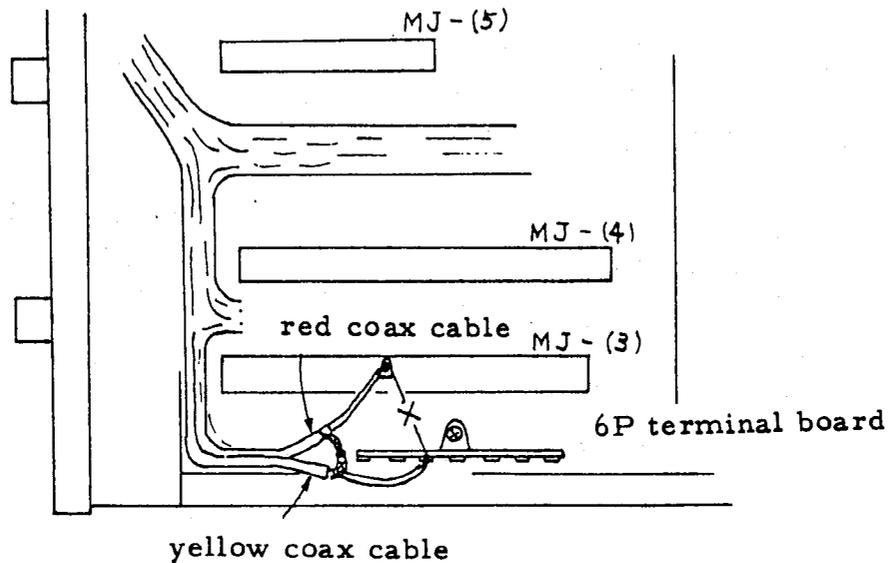

Fig. 6-9
4. Remove a wire between Pin 10 of MJ-3 and terminal board at the side of MJ-3. (See Fig. 6-9)
1. Remove the jumper wire between Pin 10 of MJ-3 and 6P terminal board (X mark in Fig. 6-9).
2. Locate the unsoldered red and yellow coax cable between MJ-3 and chassis wall. Solder inner conductors as illustrated in Fig. 6-9.